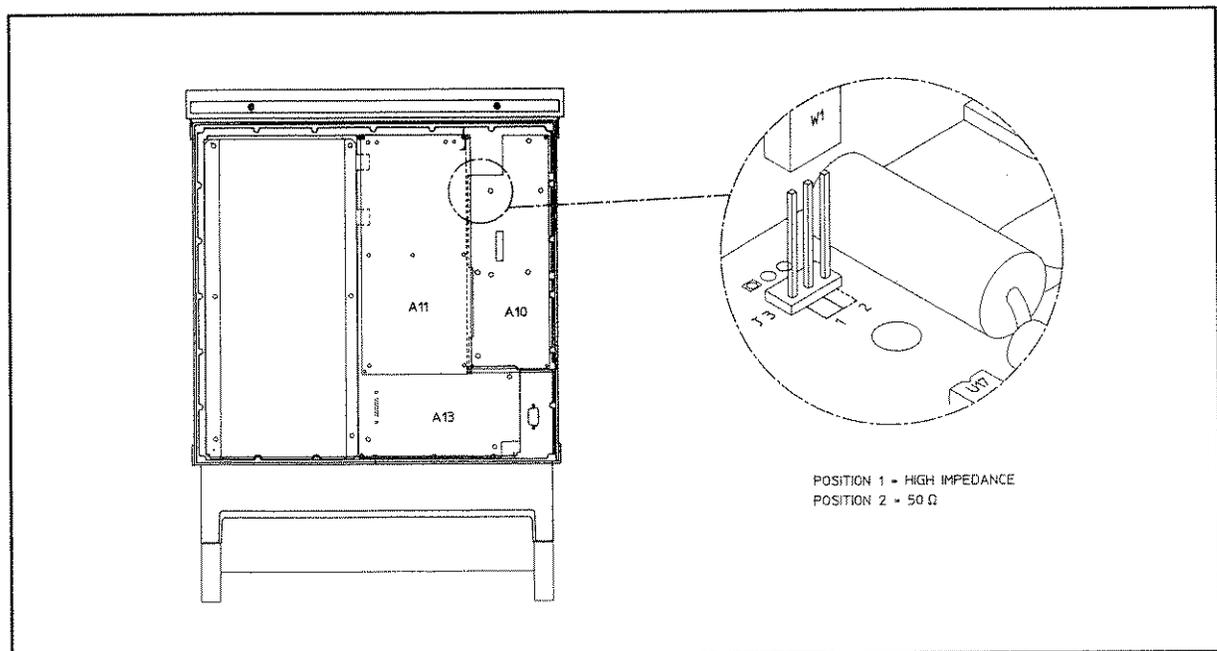

Figure 2-5. Pulse Modulation Input impedance selection
- c. Refer to Figure 2-5. Locate the selection link W1. When this is set to position 1, the input impedance is set to 50 ohms; when it is set to position 2, the input impedance is set to high impedance. Set W1 into the position you require.